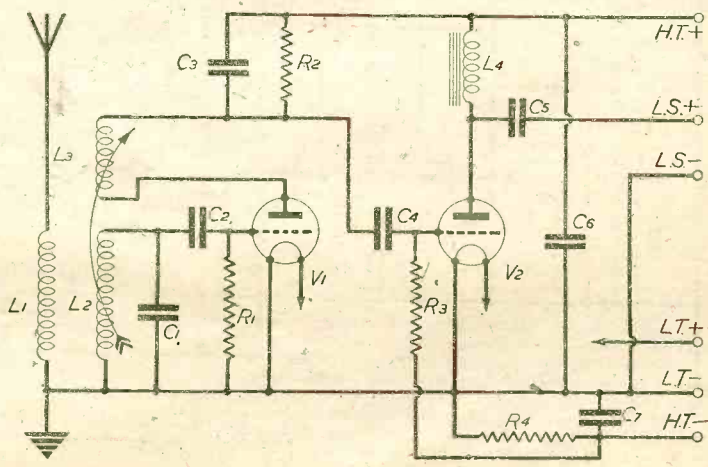

Fig. 53 (right). Circuit diagram of a simple straight two.
(1) State the purpose of each component in Fig. 53.